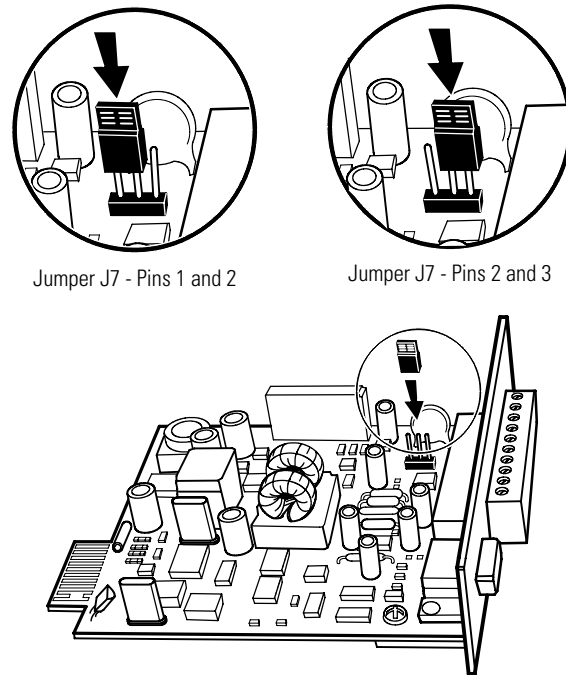

Figure 15. Setting the CAN Bridge Card Jumper J7 (Side View)
4. Set the jumper pins on the Powerware Hot Sync CAN Bridge Card according to the parallel configuration (see Figure 15):